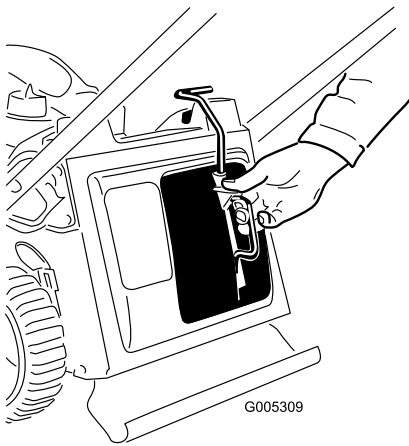
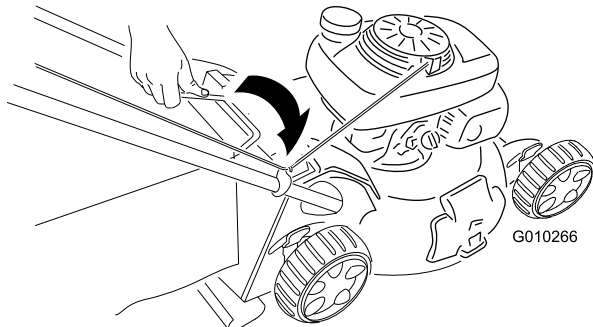

Figure 20
Figure 21
1. Install the recycle plug (Figure 20) or the grass bag (Figure 21) on the mower.